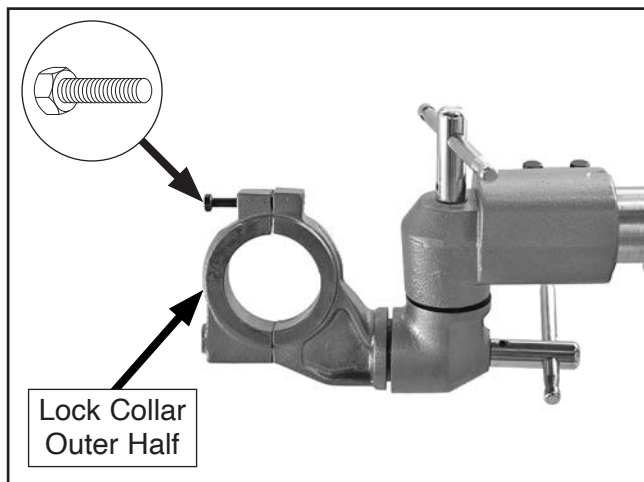

Figure 11. Location of hex bolt and lock collar.
6. Remove hex bolt and outer half of lock collar (see **Figure 11**) from elbow-joint assembly.